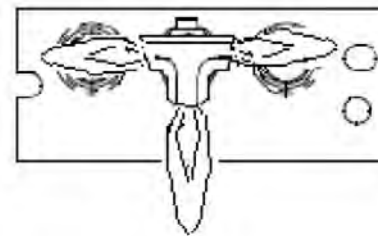
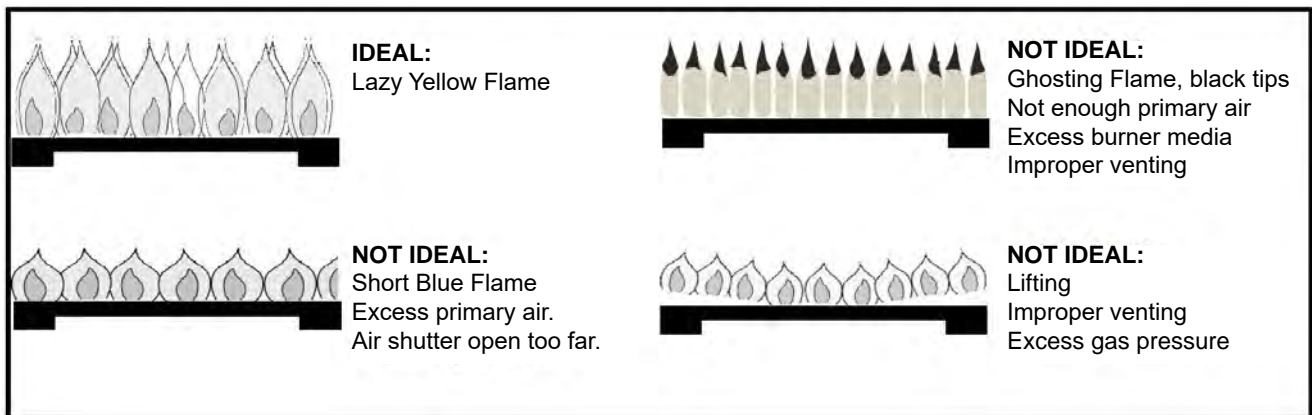

Figure 20.4.01
Figure 20.5.01:
- Inspect and ensure the lighting of the main burner occurs within 4 seconds of the main gas valve opening. Flames should match those shown in **Figure 20.4.01** and **Figure 20.5.01**
NOTE: Figure 20.5.01 shows examples of what a correct or incorrect flame pattern looks like. It is not a true representation of what the 27-DVIE22N-2 will look like in your home environment. The air shutter can be adjusted from the front of the unit while in operation. All adjustments should be made after 20 minutes of operation.